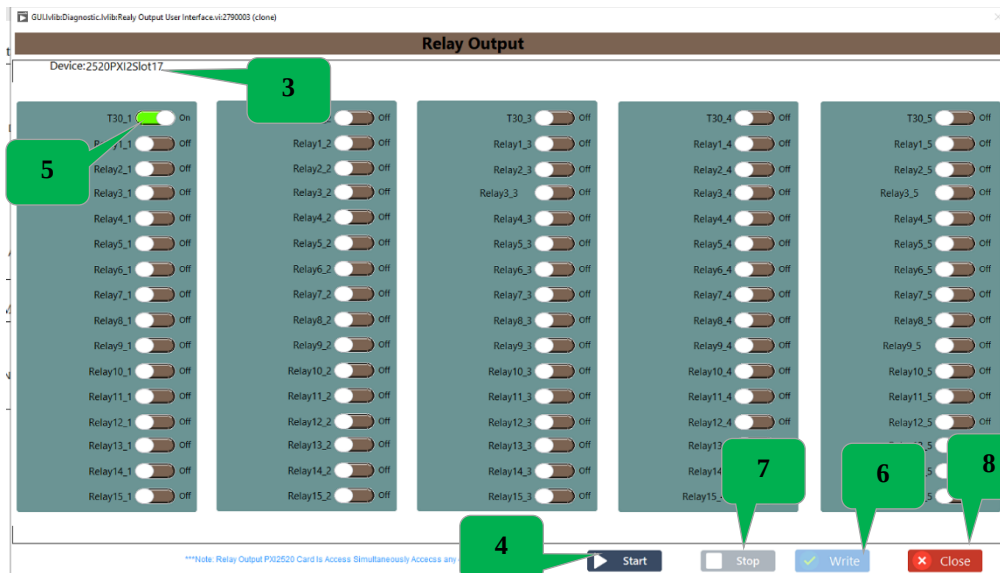

Figure 50: Relay Output
- 2) Click the Relay Output Diagnostic Button and Refer Fig 50.